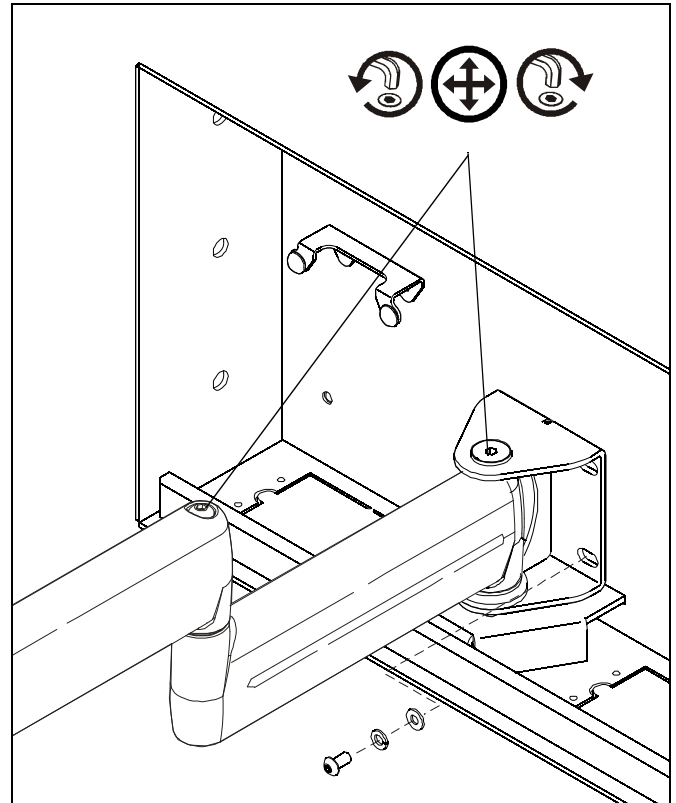

Figure 12
1. Using 3/16" hex key (N), slightly loosen or tighten the adjustment screw(s) as necessary (See Figure 12).